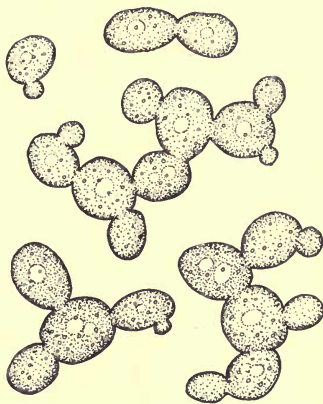

FIG. 100. — Yeast plant.
**Yeasts and how they grow.** Yeasts are microscopic oval plants that reproduce by a process called budding. Examining yeast under the microscope, you can see little more than oval colorless bodies, about  $\frac{1}{3000}$  of an inch in diameter (Fig. 100). If you continue your watch, you will see a small knob form on one end of the yeast plant. The cell wall draws in, dividing this knob from the original plant, the two break apart, and we have two plants. In this way yeast plants increase in numbers with great rapidity.